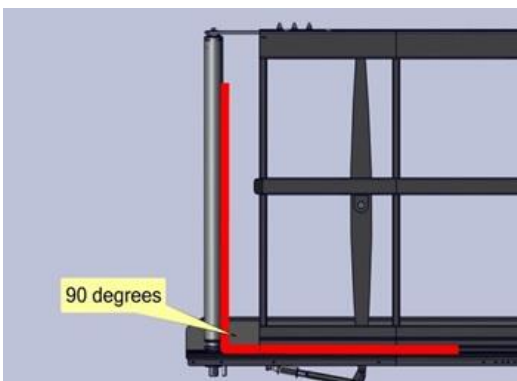
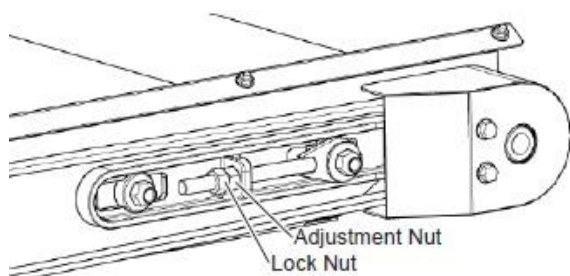

Figure 72
Figure 73
1. After the rollers are installed the rollers need to be square to the frame. Use a square to make certain the roller is perpendicular to the frame. Figure 72 If the roller is not square, loosen the lock nut and reposition the drive roller via the adjustment nut. Figure 73